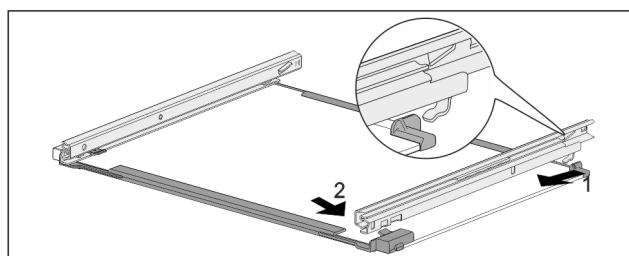

Fig. 180 Glass shelf with rails
- Hook in rail at the back. Fig. 180 (1)
- Hook in rail at the front. Fig. 180 (2)